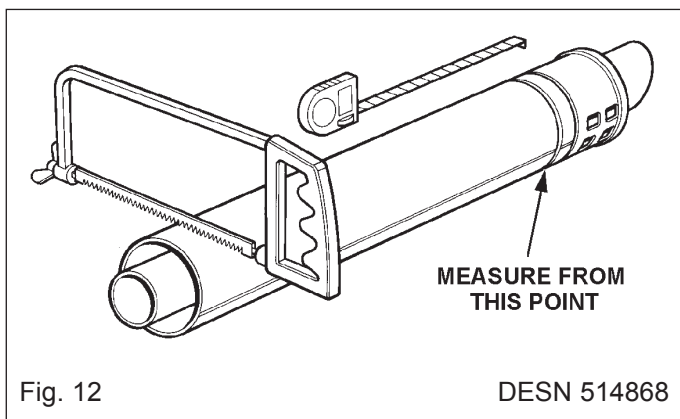
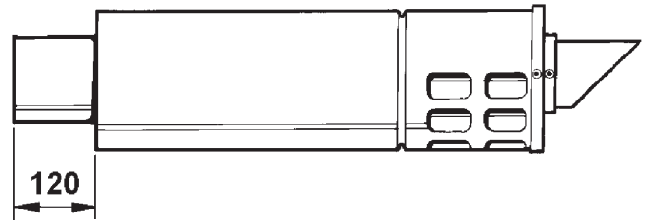

Fig. 12
Fig. 13
- Using Fig. 12, measure from the outside of the wall to the end of the recess on the 100mm spigot, this will be the same for both the cooker and boiler flues, then cut the 100mm tube to this length. Then cut the 60mm pipe to 120mm. (See Fig. 13).